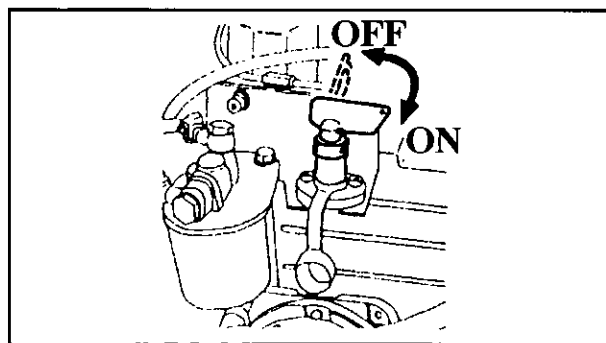

Figure 3-3 Battery Isolator Switch
- To provide further security a removable key, battery isolator switch is provided in the engine compartment, refer Figure 3-3.